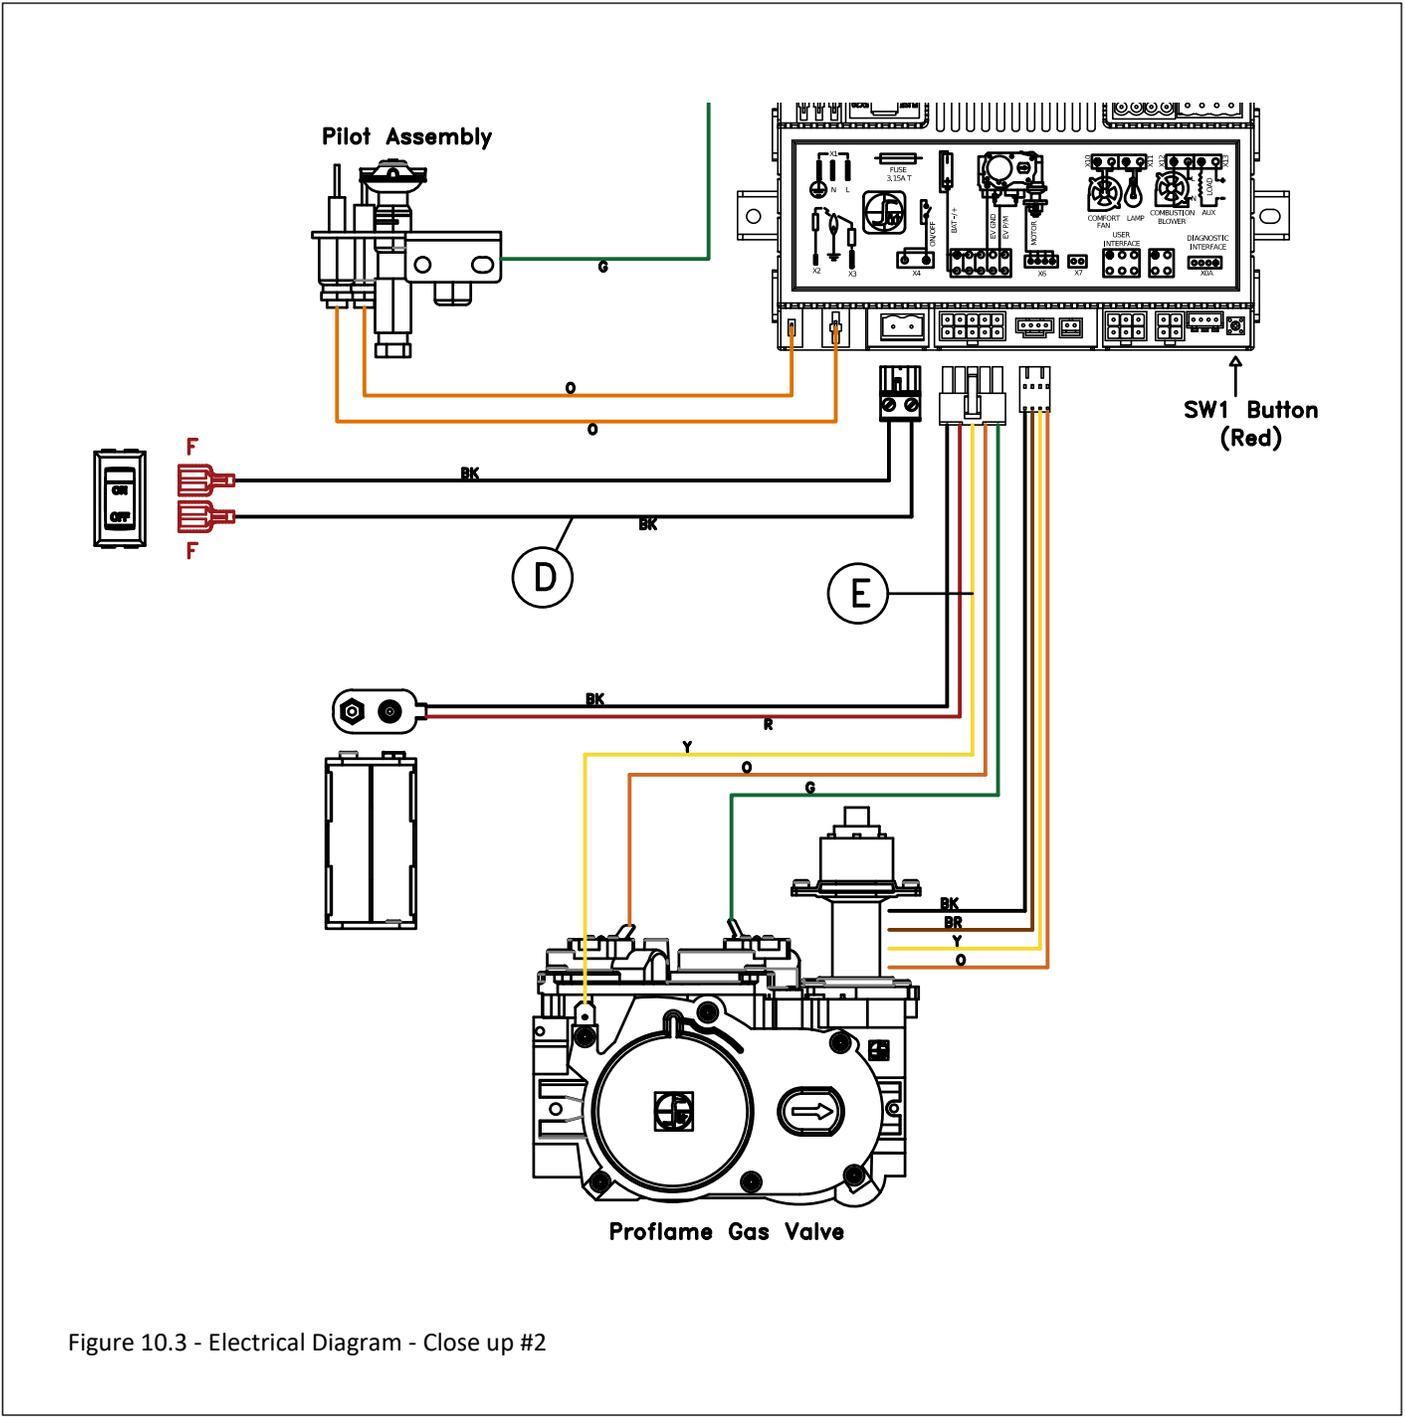

Figure 10.3 - Electrical Diagram - Close up #2
- Figure 10.3 shows a close up of the wiring diagram. This figure shows the pilot assembly, on / off rocker switch, battery back-up, valve, and SW1 Remote Learn Button.